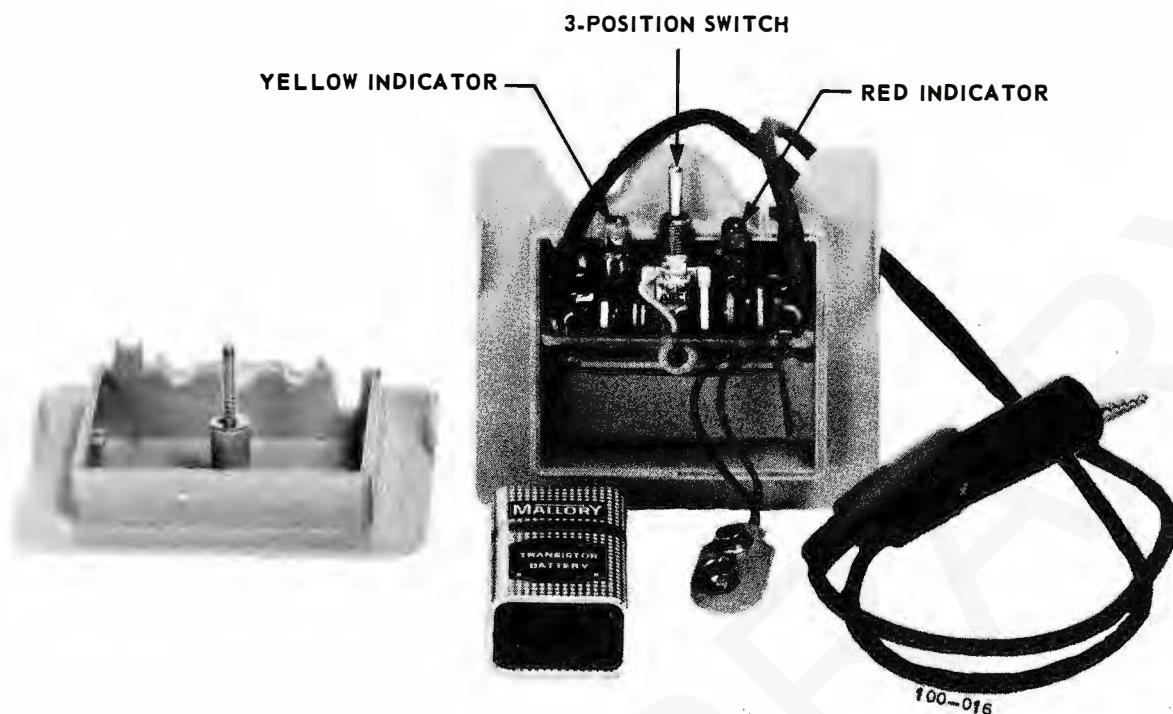

Fig. 2 — QGL7A Tone Generator (Open)
2.01 The tone generator (Fig 2) consists of a pulse generator, voltage sensing circuit, two indicators, and a switch. All the components are housed in a case made of durable insulating material. Two test leads with alligator clips extend from the case for connecting to the desired test pairs. Space is provided within the case for one 9-volt transistor radio battery (not supplied).